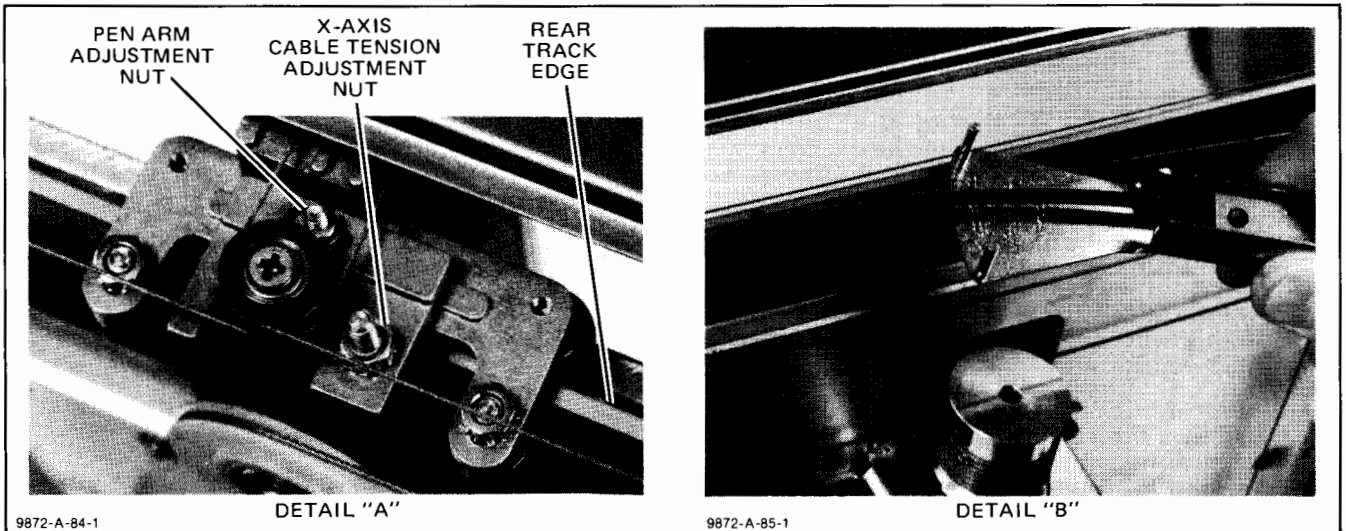

Figure 3-7. X-axis Cable Tension Adjustment
- d. Using a 0-700 gram gauge, press against the cable at the midpoint until it just touches the rear track edge. Refer to Figures 3-7 and 3-8.
- d. Any offset can be corrected by resetting the pen arm adjustment nut. (See Figure 3-7 for the adjustment location.)